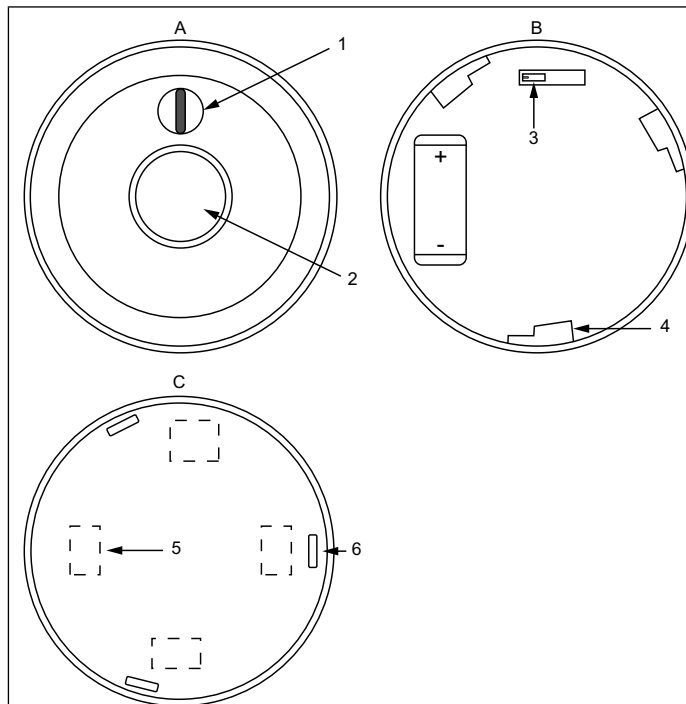

Figure 2 A = Main body, front, B = Main body, back, C = Back cover
1. Break through the knockouts on the inside of the back cover. See *Figure 2*